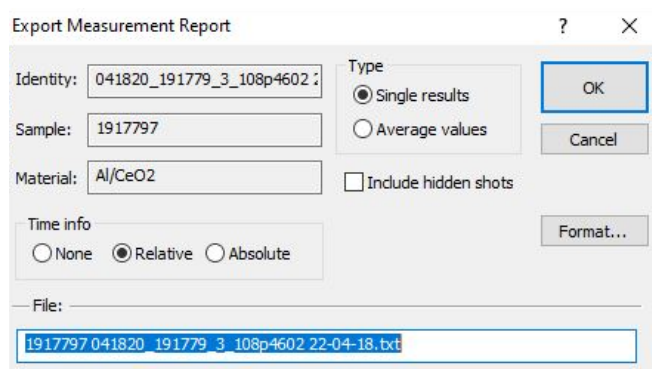

Figure 47. Export data as a .txt file.
- Verify single results and relative are selected (as shown in Figure 47).